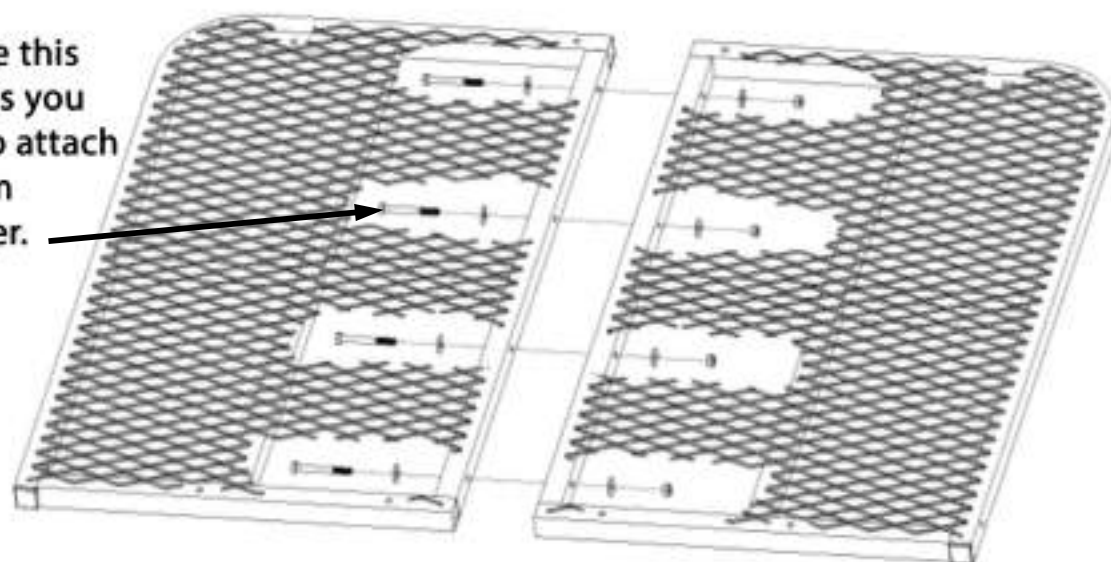

Figure 16
STEP 1: Place two (2) sections of platform side-by-side and bolt together using four (4) $\frac{1}{4}$ " x $2\frac{1}{4}$ " bolts, and eight (8) washers as shown in Figure 16. Place one (1) washer under the head of each bolt and one (1) washer under each nut. Tighten nuts to 50 inch pounds.